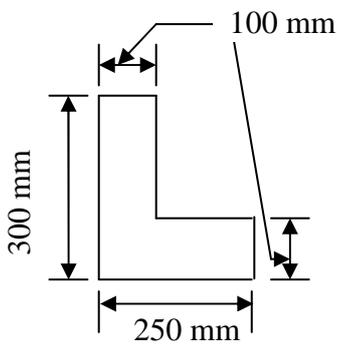

Fig.8 Q-4 (c)OR
- (c)** Find Moment of Inertia of a lamina shown in the fig.8 about horizontal centroidal axis. **06**